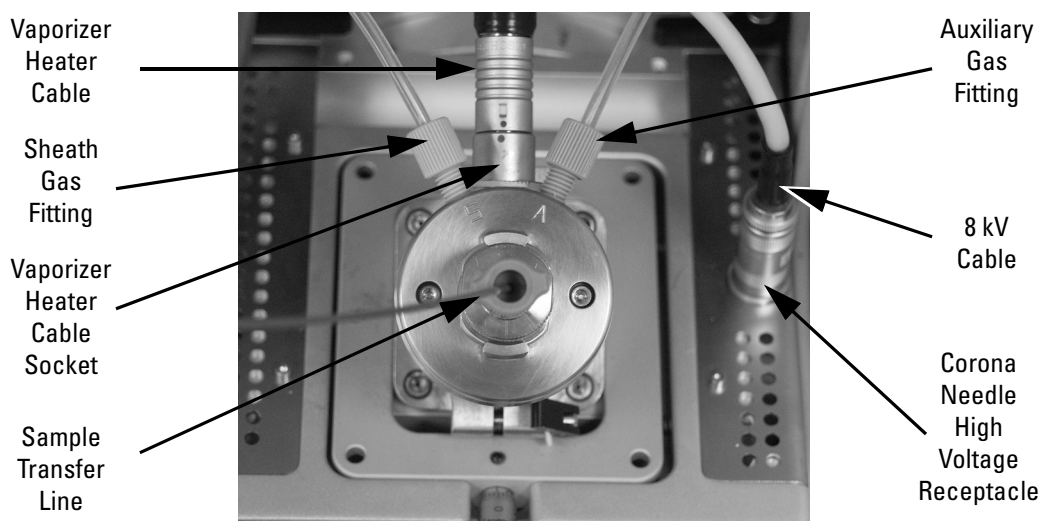

Figure 2-2. Ion Max with APCI probe installed
1. Unplug the vaporizer heater cable from the vaporizer heater cable socket on the APCI probe. See Figure 2-2.
3. Disconnect the sample transfer line from the APCI probe. See Figure 2-2.